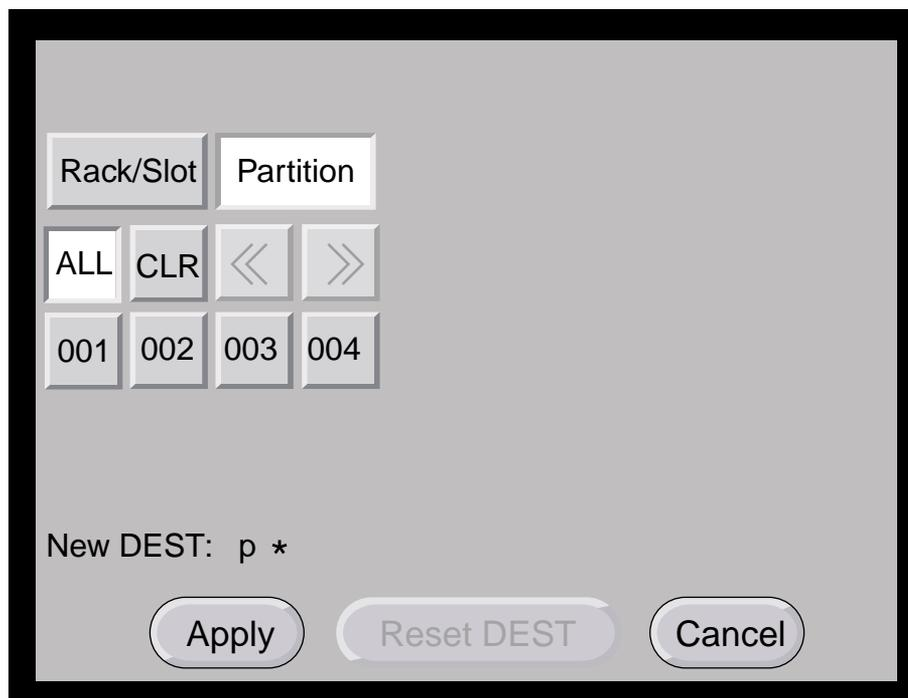

Figure 4-20 Partition Selection Window
5. If you want to power off a partition, select **Partition** from the destination selection window. The partition selection window, shown in Figure 4-20, appears.